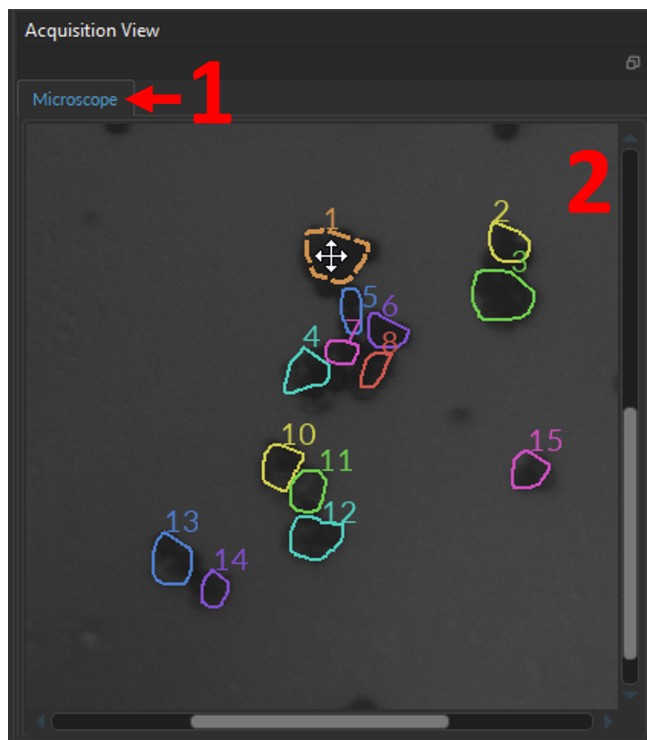

Figure 11.21: *Microscope View*
1. The **Sensor** tab (Fig. 11.21, 1) - Toggle between tabs (if multiple channels exist) to display the device's (microscope or camera) live images.
2. The **Microscope Feed** (Fig. 11.21, 2) - Displays the live microscope images where users can: